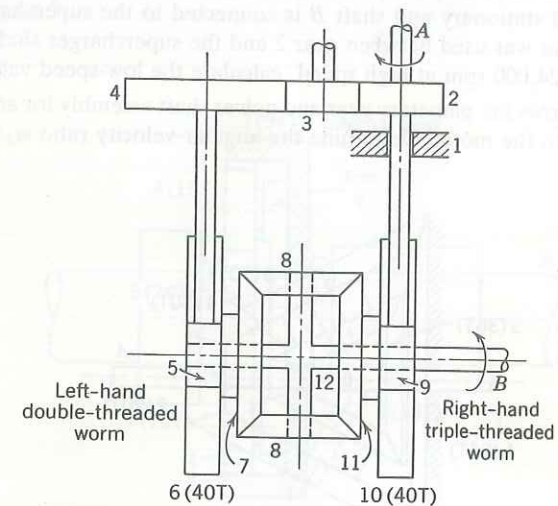

FIGURE 7.33
7.17. Shaft *A* rotates in the direction shown in Fig. 7.33 at 640 rpm. If shaft *B* is to rotate at 8 rpm in the direction shown, calculate the angular-velocity ratio ω_2/ω_4 . What would the ratio ω_2/ω_4 have to be for shaft *B* to rotate at 8 rpm in the opposite direction?
7.46. In Fig. 7.33, shaft *A* rotates at 640 rpm in the direction shown and transmits 10 hp to gear 2. Calculate the power circulating in the branch control circuit and make a schematic power flow diagram. Shaft *B* connected to arm 12 is the output shaft. Gear 2 has 20 teeth and gear 4 has 40 teeth.